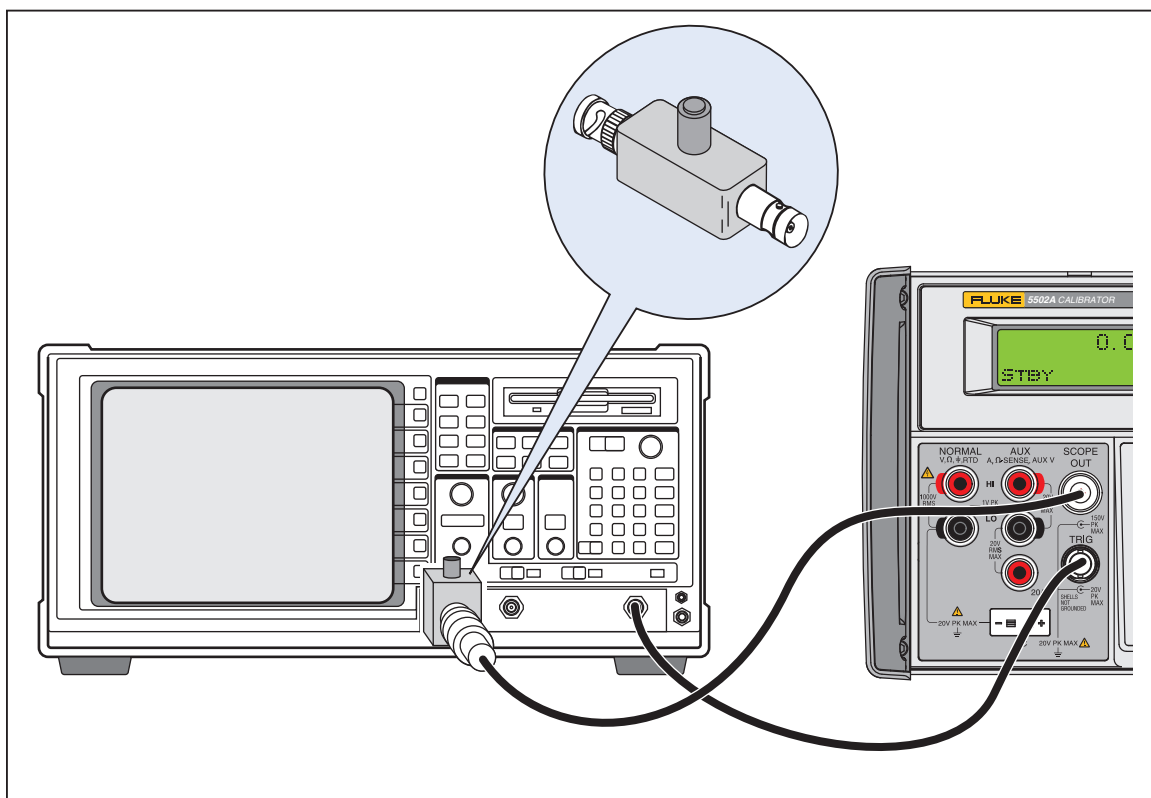

Figure 9-2. Tunnel Diode Pulser Connections
1. Connect the Calibrator, tunnel diode pulser, and oscilloscope as shown in Figure 9-2.